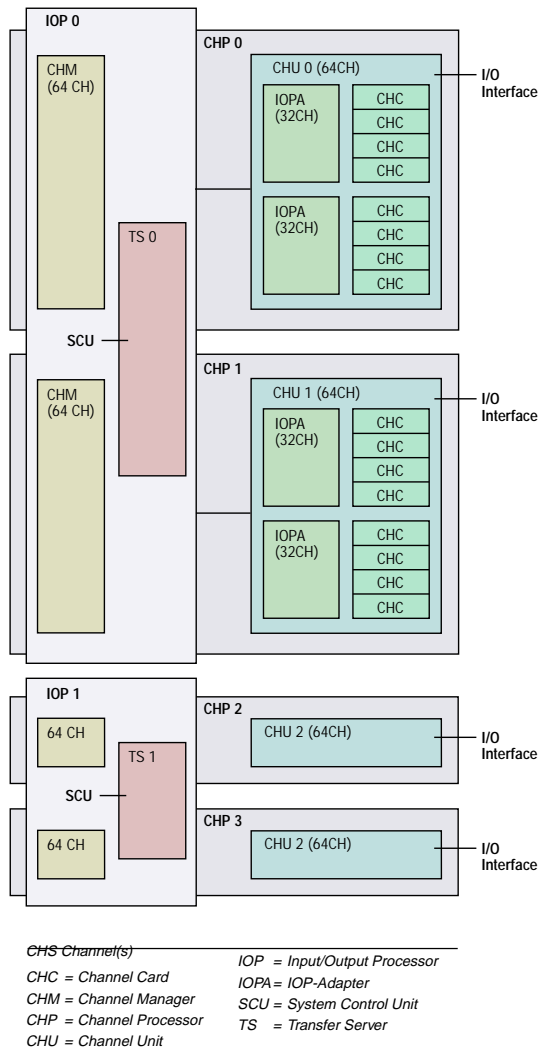

Figure 5-8. Channel processors.
- A channel unit, a CHM, and a transfer server (which is shared between two CHPs) comprise a CHP (figure 5-8).